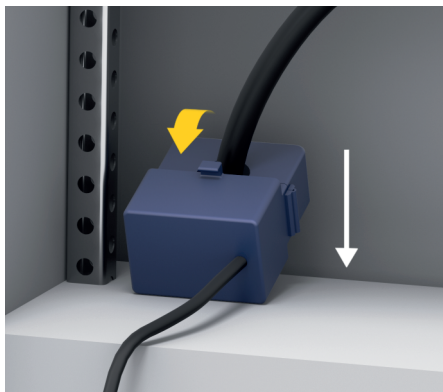

Fig. 15: Current sensor installation example
- Make sure the sensor has the correct direction of measurement (Fig. 15, white arrow).
- ▶ Select an installation location that allows cables to be routed straight, and pay attention to the direction of measurement (**arrow pointing towards the load**) (Fig. 15, white arrow).
- ▶ Insert the installation cable in the current sensor and close the sensor cap (Fig. 15, yellow arrow).